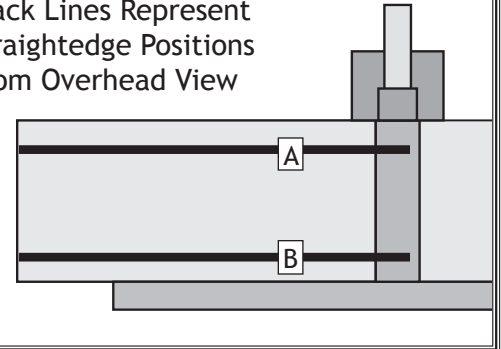

Figure 39. Straightedge positions A and B.
6. Move the straightedge to position A, as shown in **Figure 39**. Turn the jack screw nearest the fence counterclockwise until the end of the knife touches the straightedge.
7. Move the straightedge to position B, as shown in **Figure 39**. Turn the jack screw nearest the guard counterclockwise until the end of the knife touches the straightedge.